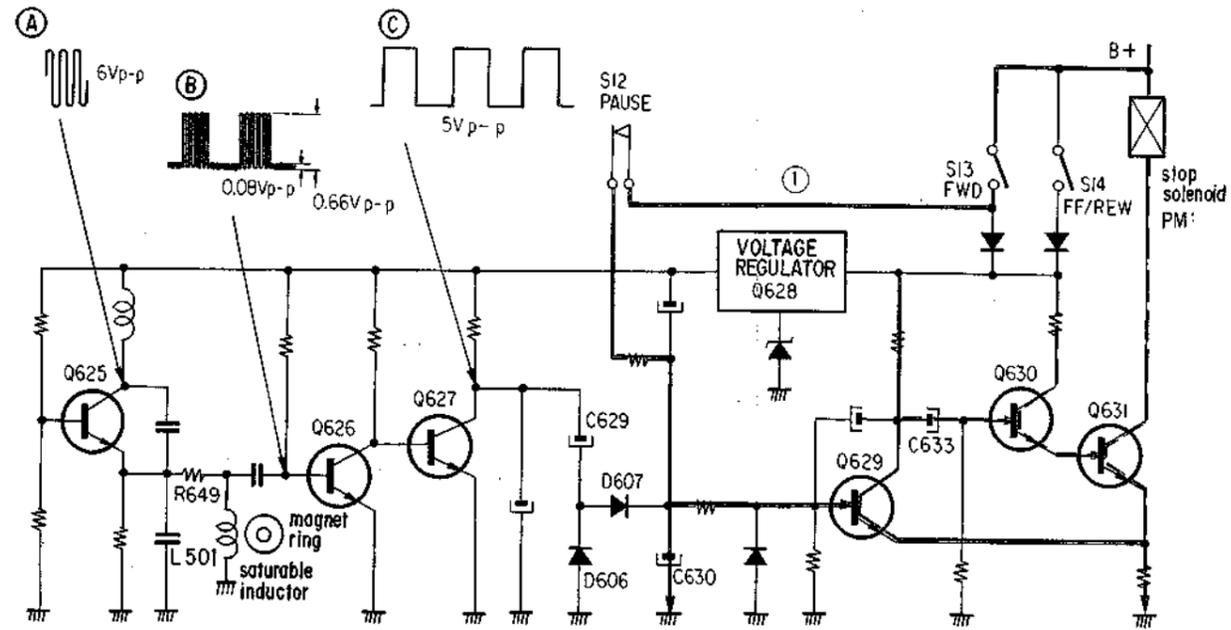

Fig. 4
- (1) Q522 is always turned on when the power supply is turned on, irrespective of whether S11 is on or not. This consequently prevents T1 from being set to infinity.
- (2) Q311 that is connected in series with the meters remains off for approximately 2 seconds due to the base time constant of this transistor after the power supply is turned on. This is sufficient time for the power supply circuits in IC to reach stability.
**Shut-Off Circuit (See Fig. 4)**